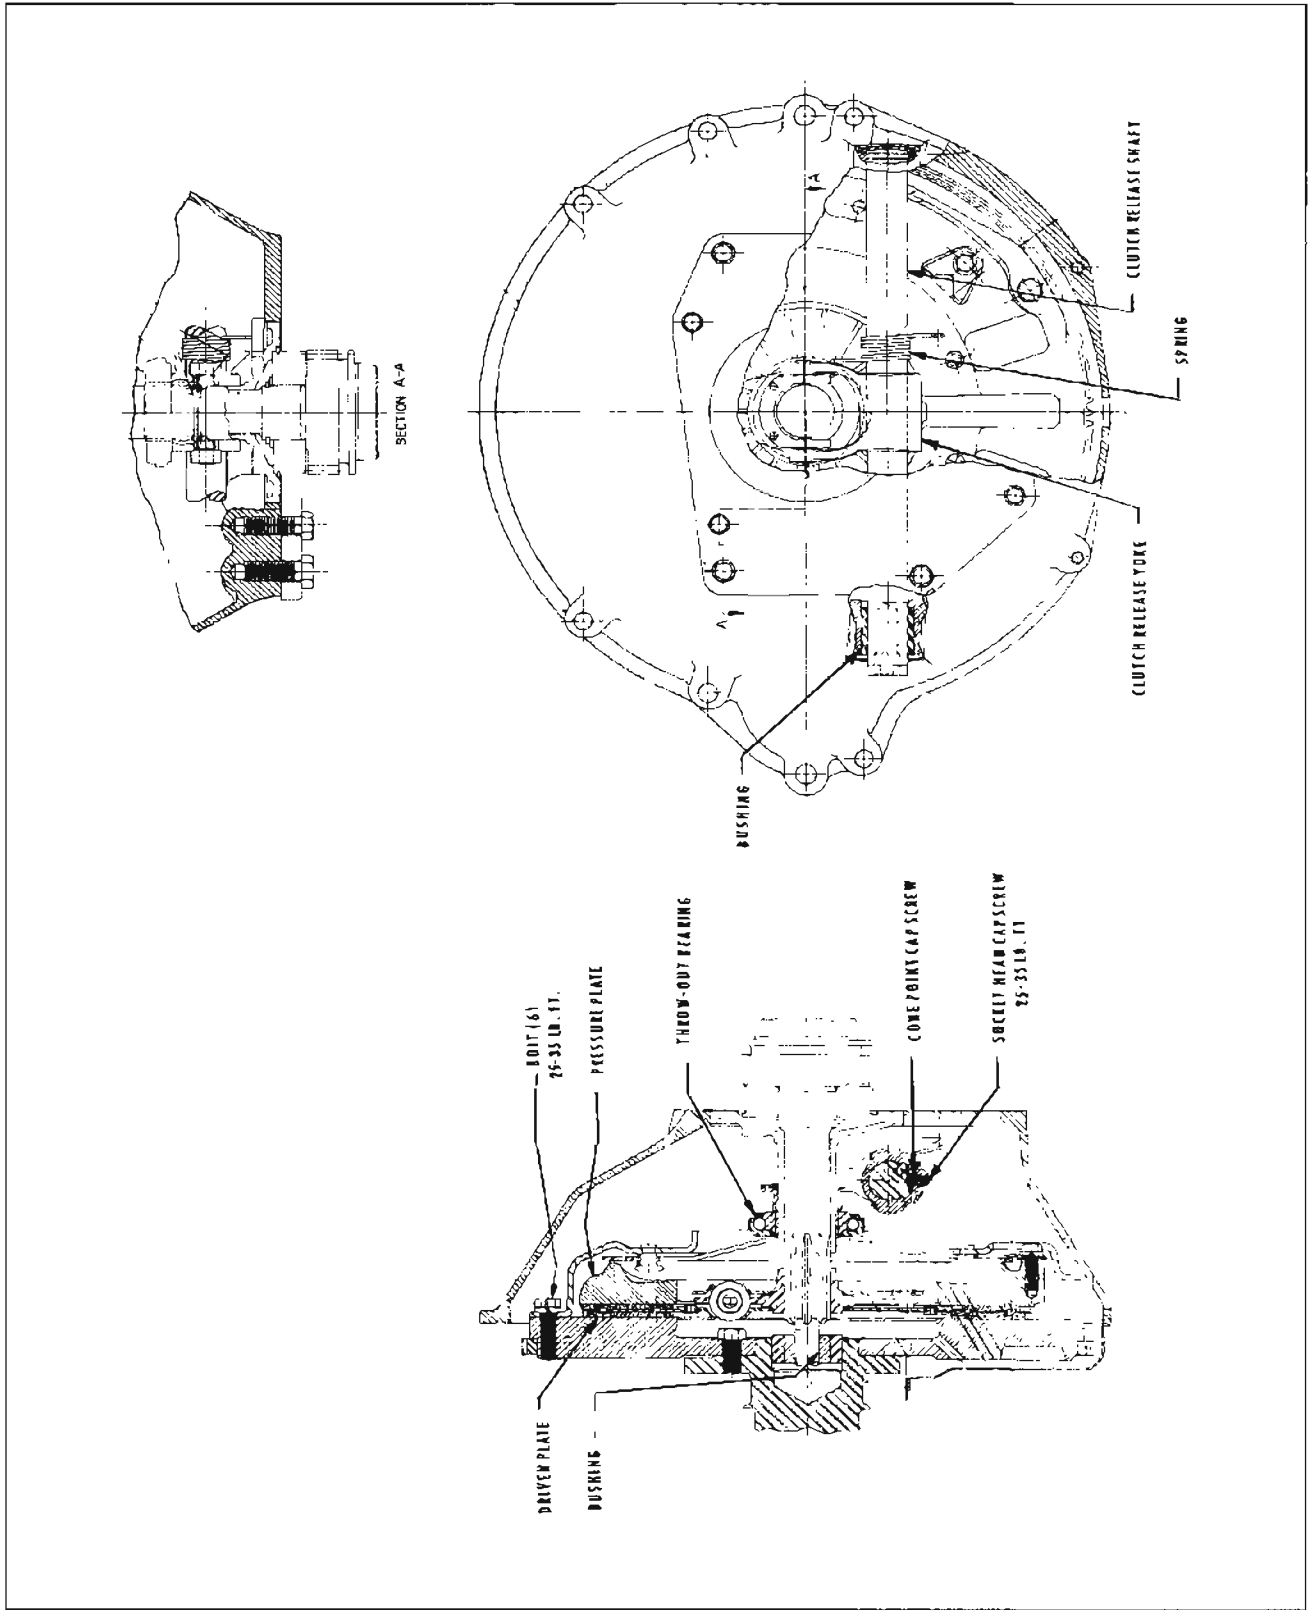

Figure 4-2—Clutch Inner Controls
7. Remove nylon bushing from flywheel housing. See Figure 4-2.
8. Remove socket head cap screw on clutch release shaft from same hole remove second socket head cap screw (cone point). See Figure 4-2.
9. Pull clutch release shaft out approximately three inches. Slide release yoke, throw-out bearing, woodruff key, and return spring off end of release shaft. Remove release shaft. See Figure 4-2.
wheel bearing grease. Slide shaft into place. See Figure 4-2.
4. Install clutch release yoke over woodruff key. Install cone point socket head cap screw first. Install second socket head cap screw. See Figure 4-2.